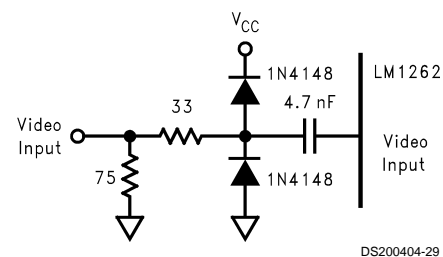

FIGURE 7. Recommended Video Input ESD Protection
*Figure 7* shows the recommended input protection for the LM1262. This provides the best protection against ESD. When this protection is combined with good PCB layout the LM1262 will easily survive the IEC 801-2 level 4 testing (8 kV ESD). It is strongly recommended that the protection diodes be added as shown in *Figure 7*. The 1N4148 diode has a maximum capacitance of 4 pF, which will have little effect on the response of the video system due to the low impedance of the input video.